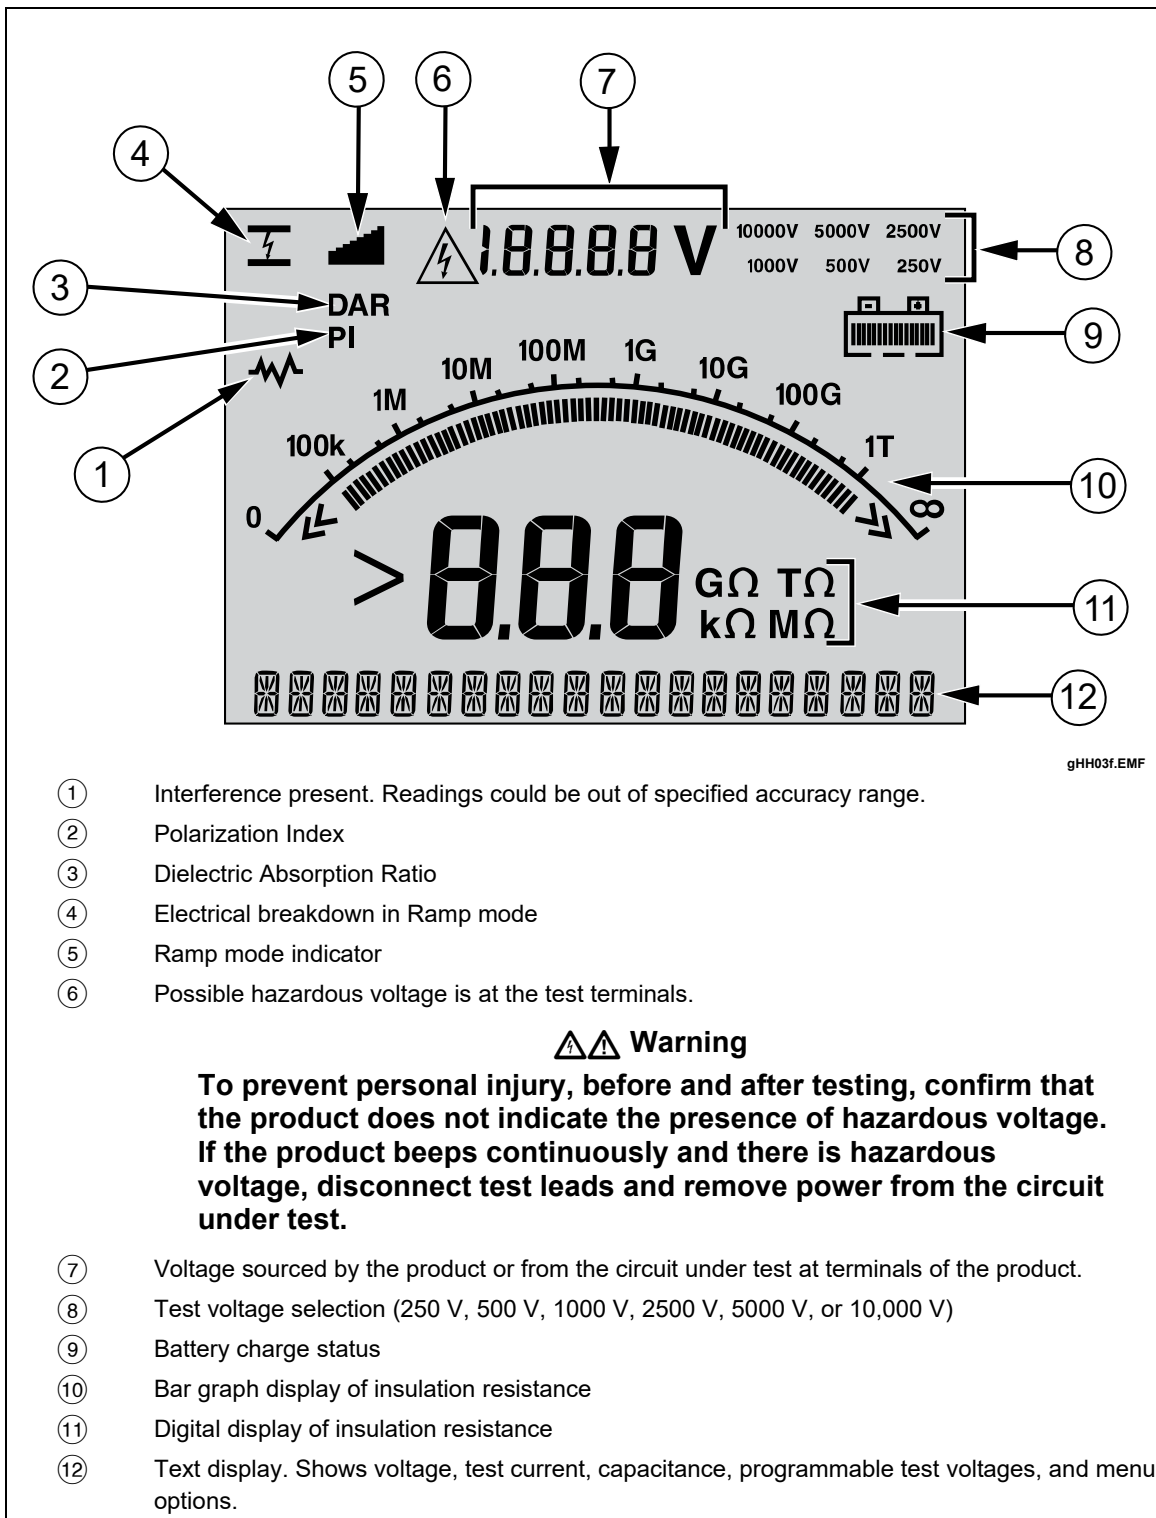

Figure 1. Display Features
Turn on the DUT several times while observing the display during power up. Compare the display with the example in Figure 1. Check all segments for clarity and contrast.
3. Turn on the product and see that all the battery symbol segments display as shown in Figure 1.